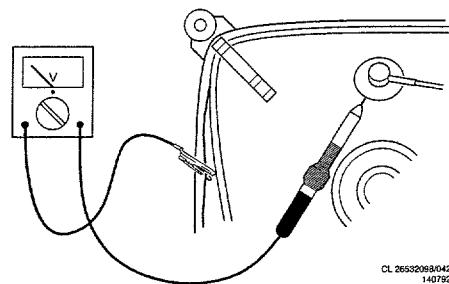

Fig. 3.1
2. In order to prevent damage to ICs and transistors, all high-voltage flashovers must be avoided. In order to prevent damage to the picture tube, the method shown in Fig. 3.1 should be used to discharge the picture tube. Use a high-voltage probe and a multimeter (position DC-V). Discharge until the meter reading is 0V (after approx. 30s).